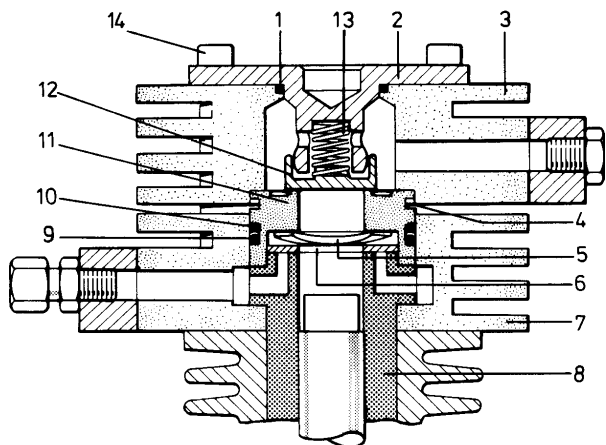

Fig. 24 Valve head and valves, 4th stage
The valves are located in the valve head of the 4th stage, see Fig. 24. The inlet valve merely comprises a valve disk (6) and a wavy washer (5). The inlet valve seat is machined directly into the cylinder liner (8) of the 4th stage piston. The discharge valve consists of the valve seat (11), valve disk (12), valve spring (13), and stroke limiter (2).
The procedure for removal and reinstallation of the valves is as follows (refer to Fig. 24).